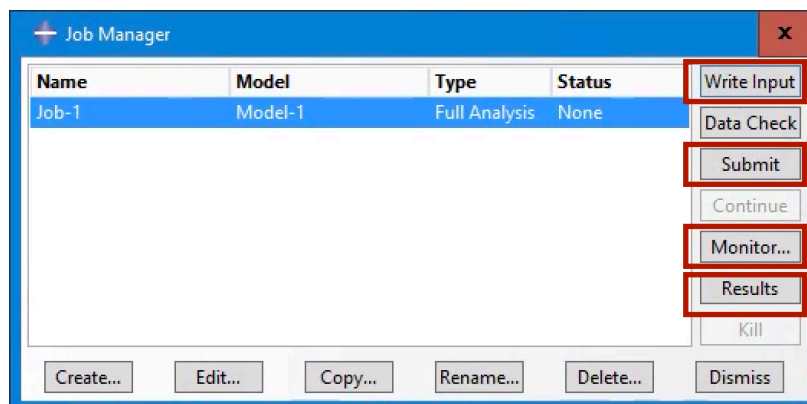

Figure 35 Job Manager: Producing the input file and submitting analysis
- Then, click on **Job Manager** button. In the appeared dialog box (Figure 35), first, click on the **Write Input** button. This generates an Abaqus Input file (*.inp) with the name of the job that you have just created.